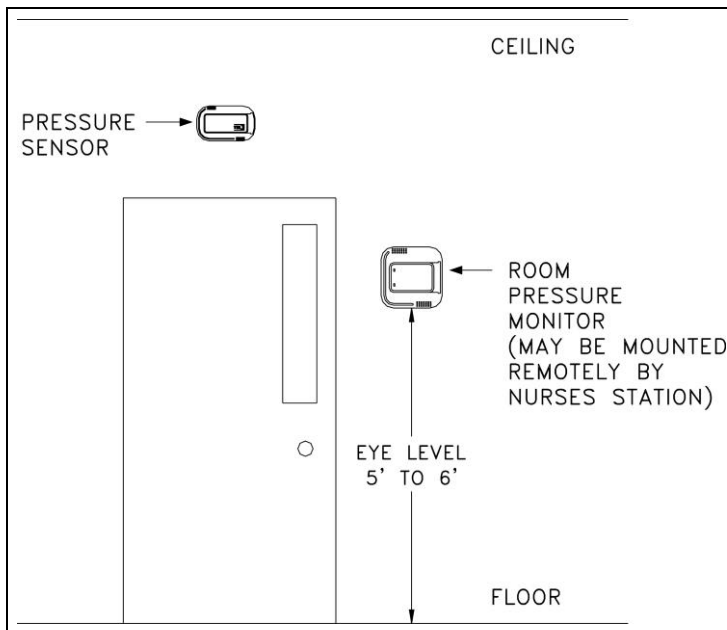

Figure 1: Typical Installation
1. Determine pressure sensor location (Figures 1, 2, and 3). Pressure sensor typically mounts in the reference space, and the plate mounts in the clean room.
3. Determine pressure sensor location (Figures 1, 6 and 7). Pressure sensor typically mounts in the reference space, and the plate mounts in the clean room.
1. Select the mounting location of the pressure monitor. The construction plans normally show the mounting location. If no location is specified, then the unit is typically installed as shown in Figure 1.